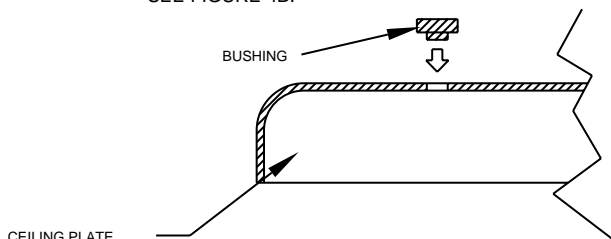

FIGURE 4A.
A. INSTALL THE (3) RUBBER BUSHINGS INTO THE TOP OF THE CEILING PLATE BY INSERTING SMALL SIDE OF THE BUSHING INTO THE THREE HOLES IN THE CEILING PLATE. SEE FIGURE 4A.